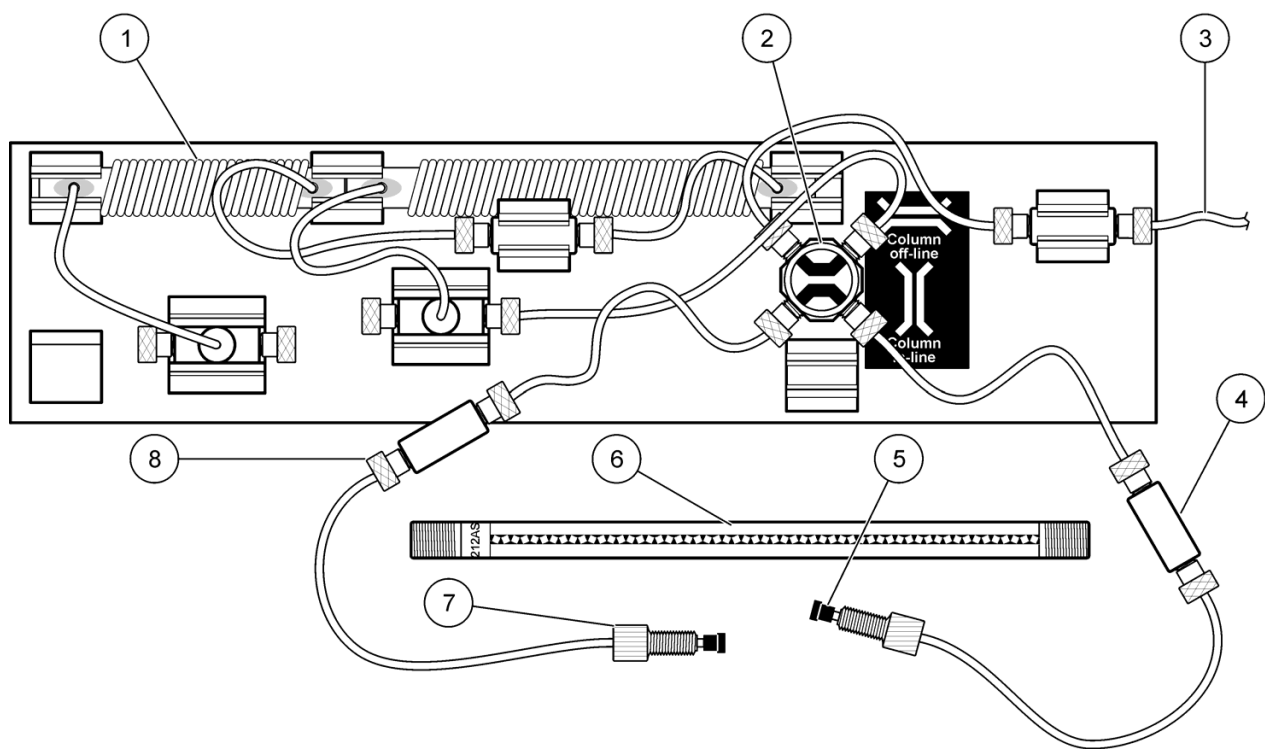

Figure 2 Cadmium column connections
- 3. Connect the switching valve and the column tube assembly tubing (Figure 2, Item 4 and Item 8).
- 4. Open the switching valve until buffer solution fills the tubing assembly then close the valve (Figure 2, Item 2).